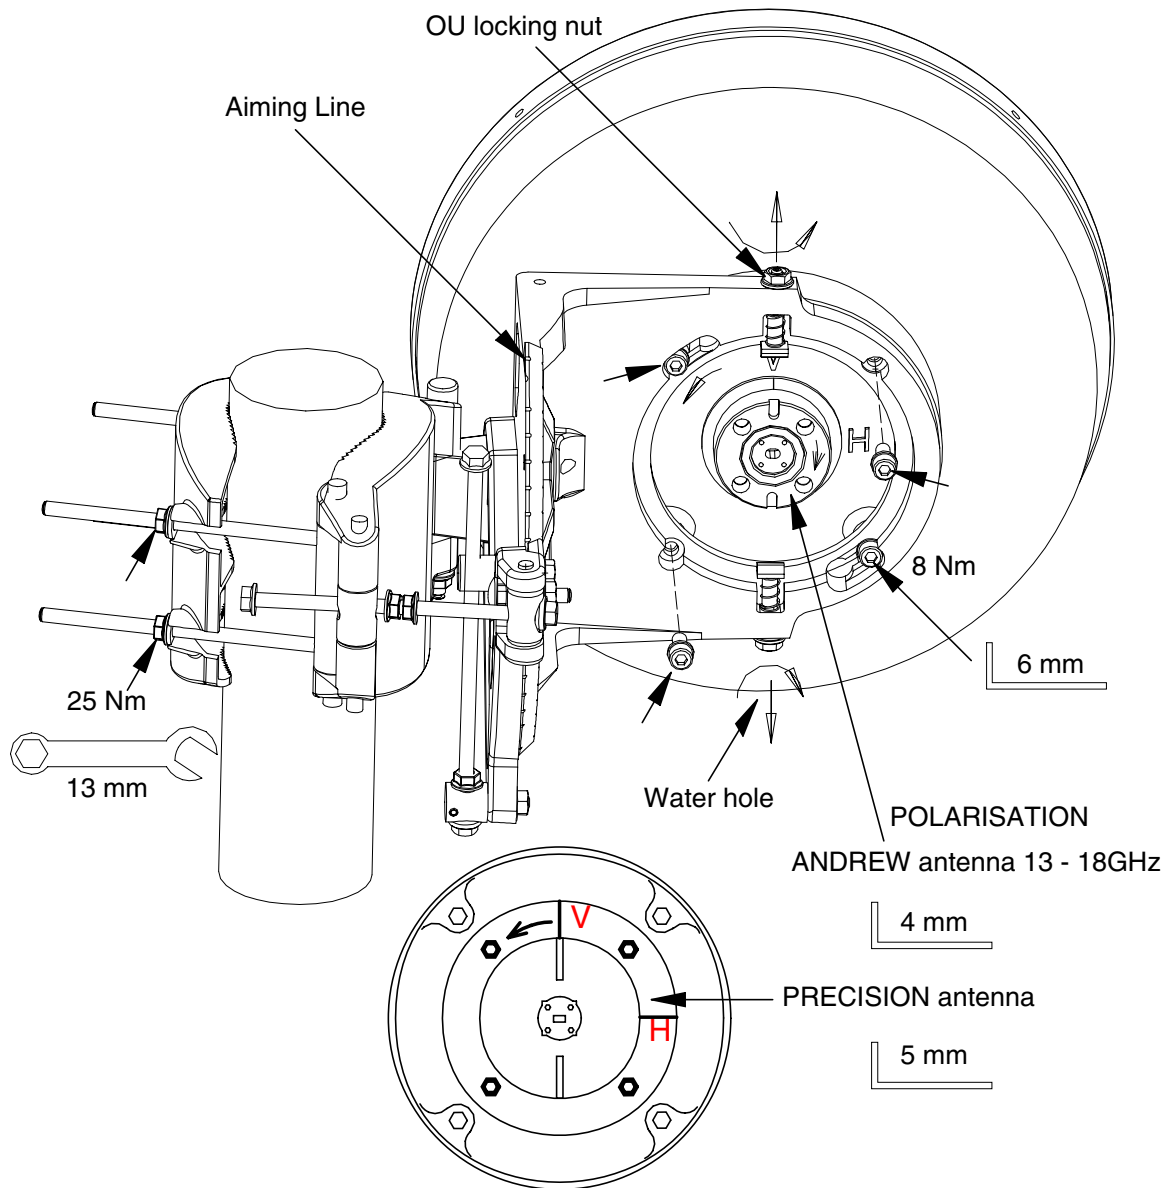

Figure 5. Installing the antenna
2. Lift the antenna into place; with the screws through the widened holes in the alignment unit (see Figure 5). Turn the antenna counter-clockwise. The waveguide has to be vertical or horizontal and the antenna water hole has to face down.
2. Unscrew the outdoor unit locking nuts (M8) out of the threads, so that the slide blocks can be drawn free from the screws (see Figure 5).
3. Open the locking nuts of the outdoor unit (see Figure 5).
To remove the integrated antenna (see Figure 5):